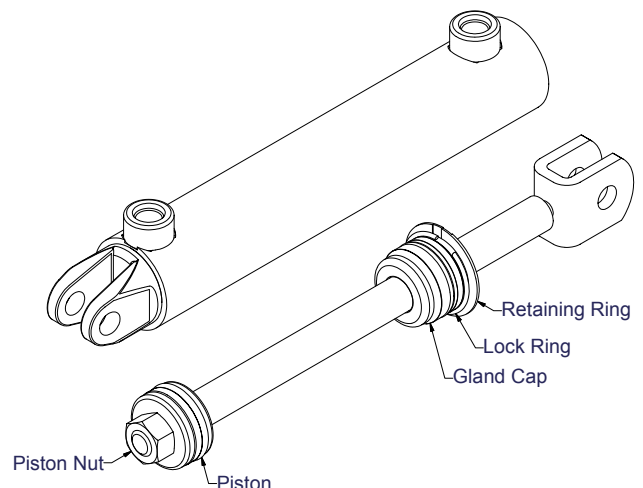

Figure 1-3, Rod Assembly
7. Remove the piston retaining nut and remove the piston. (Figure 1-3)